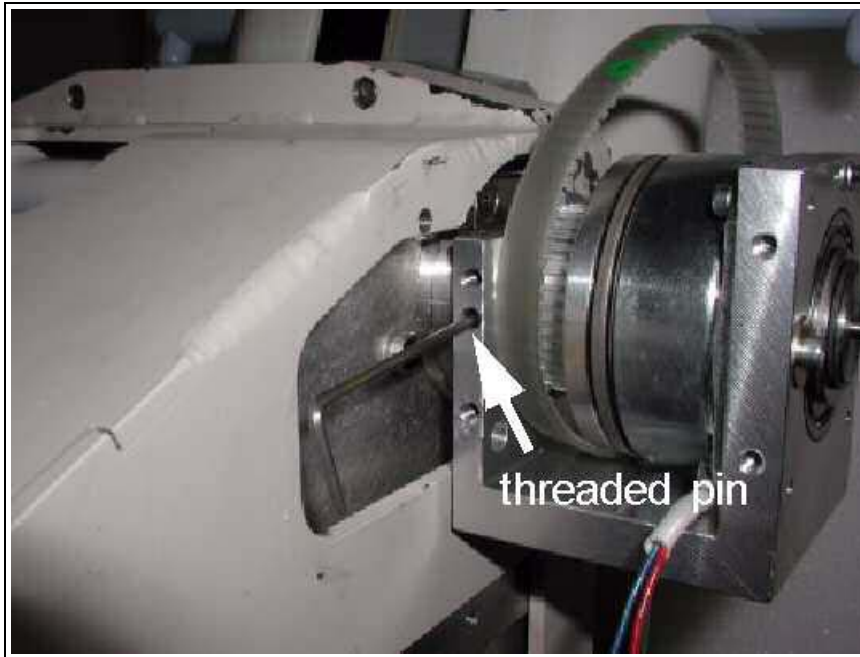

Fig. 29: Coupling unit
- Press the coupling unit against the centering disk and attach it to the left and right using the two threaded pins (Fig. 29 / p. 34).